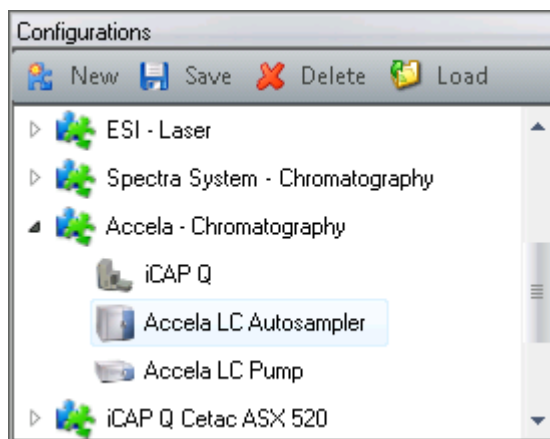

Figure 3-14. Right-click Instrument to edit settings
3. In the list of **Configurations**, right-click the Instrument you wish to edit the settings for, see Figure 3-14.